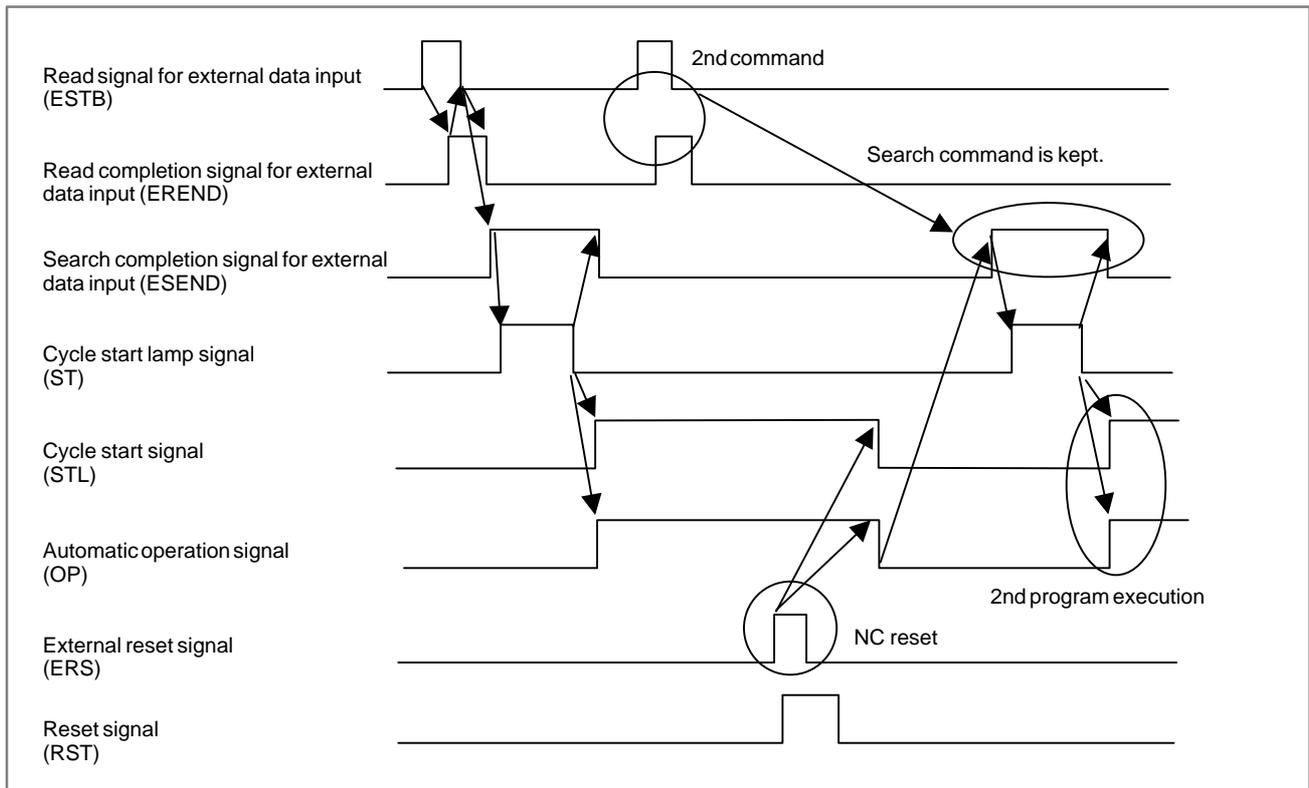

Fig. 15.2
- 5 Data for the external program number search is accepted regardless of the mode, but the search execution can be made only in the reset state. Therefore, in case that the PMC sequence, which the cycle start is executed by checking search completion signal for external data input only, is used, if the external program number search is commanded twice, the program is executed twice. (When CNC accepts a command of the program number search, the command is not cancelled even if CNC becomes reset state by external reset signal and so on.) (See Fig. 15.2) If the program execution after reset becomes a problem, please make the PMC sequence not to execute the cycle start after reset.